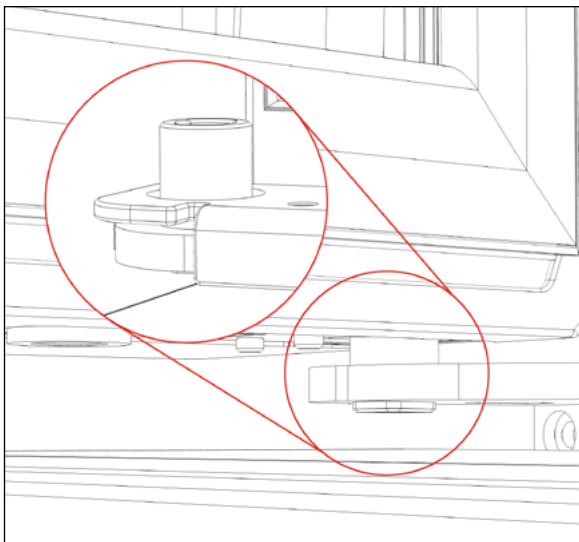

Figure 4
1. Position the right door at roughly 90° and insert the metal pin at the bottom of the door so it fits into the lower hinge receptacle (see Figure 4). Close the door.